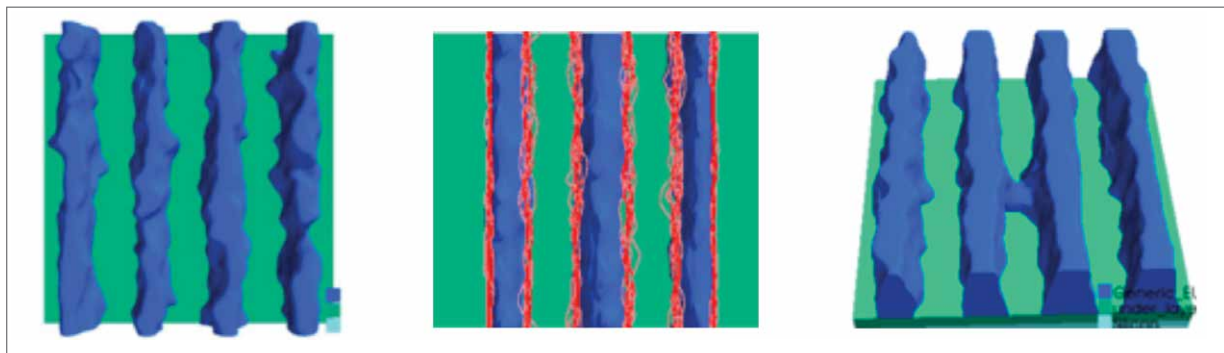

Figure 3: Stochastic simulation results. Single run result with LER (left); contour results of multiple runs (middle); localized nano bridge defect (right)
- Stochastic modeling, line edge roughness (LER) characterization and prediction of nano-defects (Figure 3)